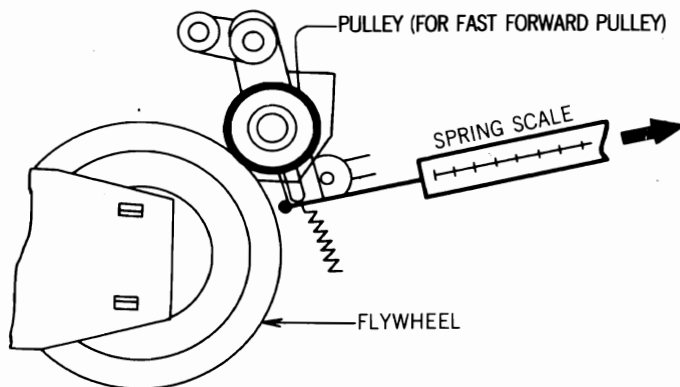

Fig. 9
- ① In REW. mode, hook a spring scale to the fast forward pulley as shown in Fig. 9.
- ② Stop the rotating of motor and take a reading only when the fast forward pulley is pulled backward by the spring scale.
- ③ The reading should be 60g.
- ② Stop the rotating of motor and take a reading only when the fast forward roller is pulled backward by the spring scale.
- ③ The reading should be 80g.
- ① In F.F. mode, hook a spring scale to the fast forward pulley as shown in Fig. 9.
- ③ The reading should be 150g.
- ① Take up torque 40 to 70g-cm.
- ② Rewind torque 80g-cm or more.
- ③ Fast forward torque 80g-cm or more.